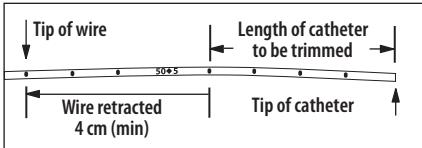

Figure 2
7. Withdraw placement wire through septum to retract wire a minimum of 4 cm behind catheter cut location (refer to Figure 2).